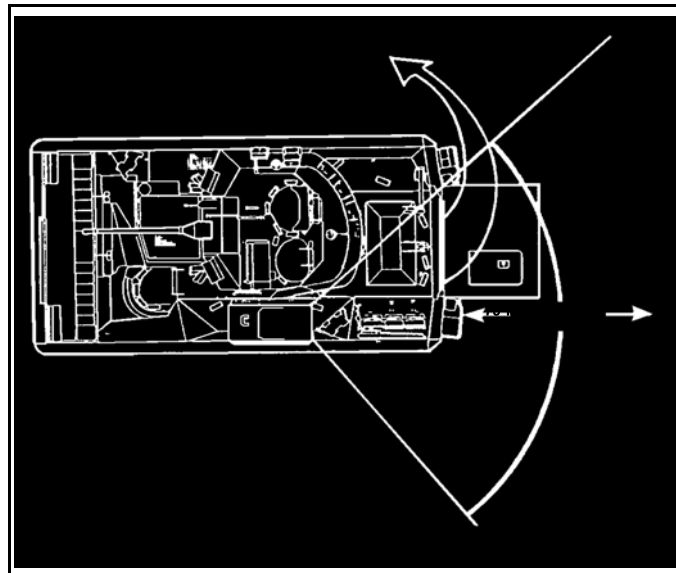

Figure 3. Troop exit.
- (1) If the second missile fires, continue with the mission.
- (2) If the second missile fails to fire after resqueezing the trigger, go to step 5.
7. As soon as the situation permits, unload the misfired TOW missile and reload (Figure 3). (In training, exit the turret through the turret shield door; stay in the squad area for 30 minutes.) If the turret has to be positioned to 6400 mils, make sure that no friendly troops are in the line of fire. To remove the misfired missile from the launcher, see task 071-316-3015: *Remove a Misfired TOW Missile from the TOW Launcher on a BFV.*